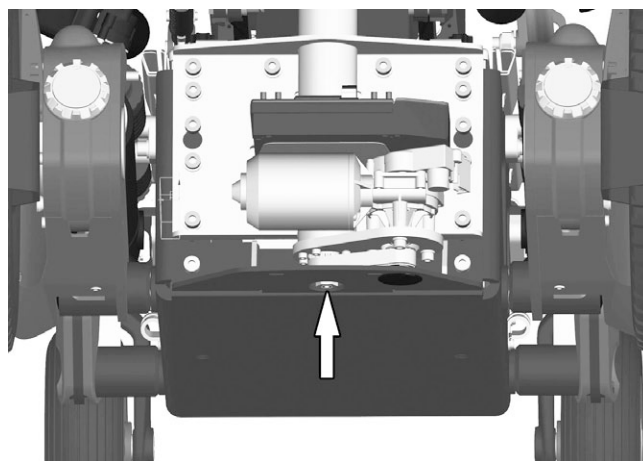

Figure 80. Remove the protective rubber cover underneath the chassis to get access to the seat elevator axle.
10. Remove the protective rubber cover underneath the chassis to get access to the seat elevator axle. See fig. 80. In the figure the wheelchair is shown without the front chassis cover for better view, however the front chassis cover do not need to be removed.
3. Use the supplied spanner to manually adjust the angle of the seat elevator i.e. rotate the seat elevator axle. It is accessed through the hole in the bottom of the chassis. See fig. 80.